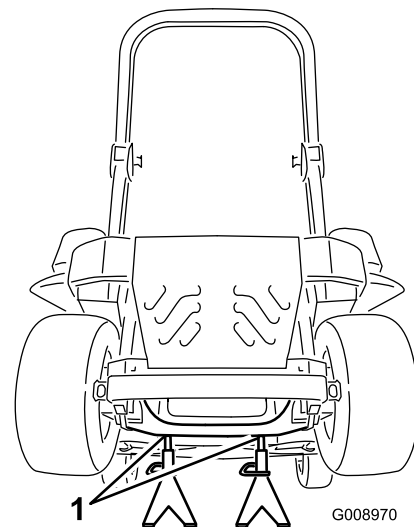

Figure 90
3. Raise the machine and support it with jack stands (Figure 90).
9. Remove the jack stands and lower the machine (Figure 90).